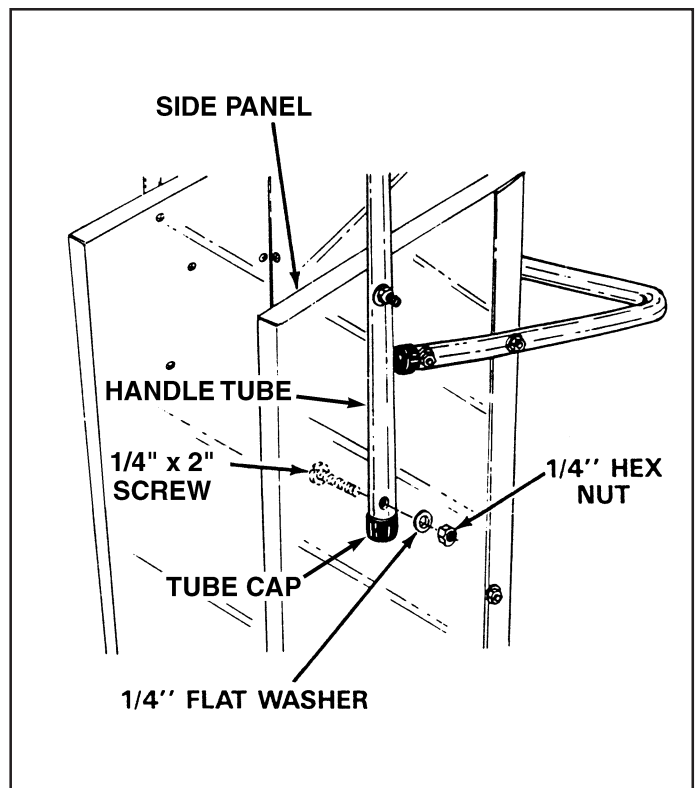

FIGURE 10
18. Place tube caps on the handle tube, then place it over the side panels and line up the four holes. Assemble four 1/4" x 2" screws through the side panels and handle. Secure with flat washers and hex nuts. See figure 10.